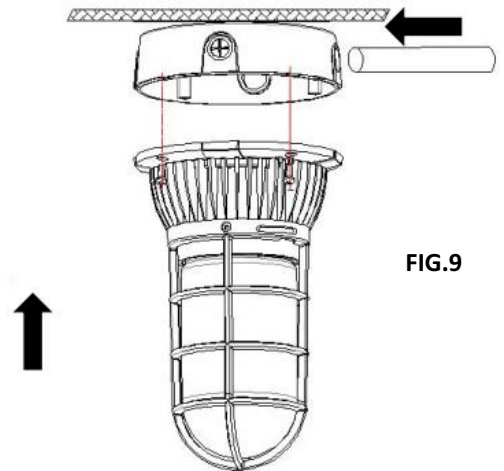

FIG.9
3. Connect the wires and screw the fixture back to the junction box. **See FIG. 9**